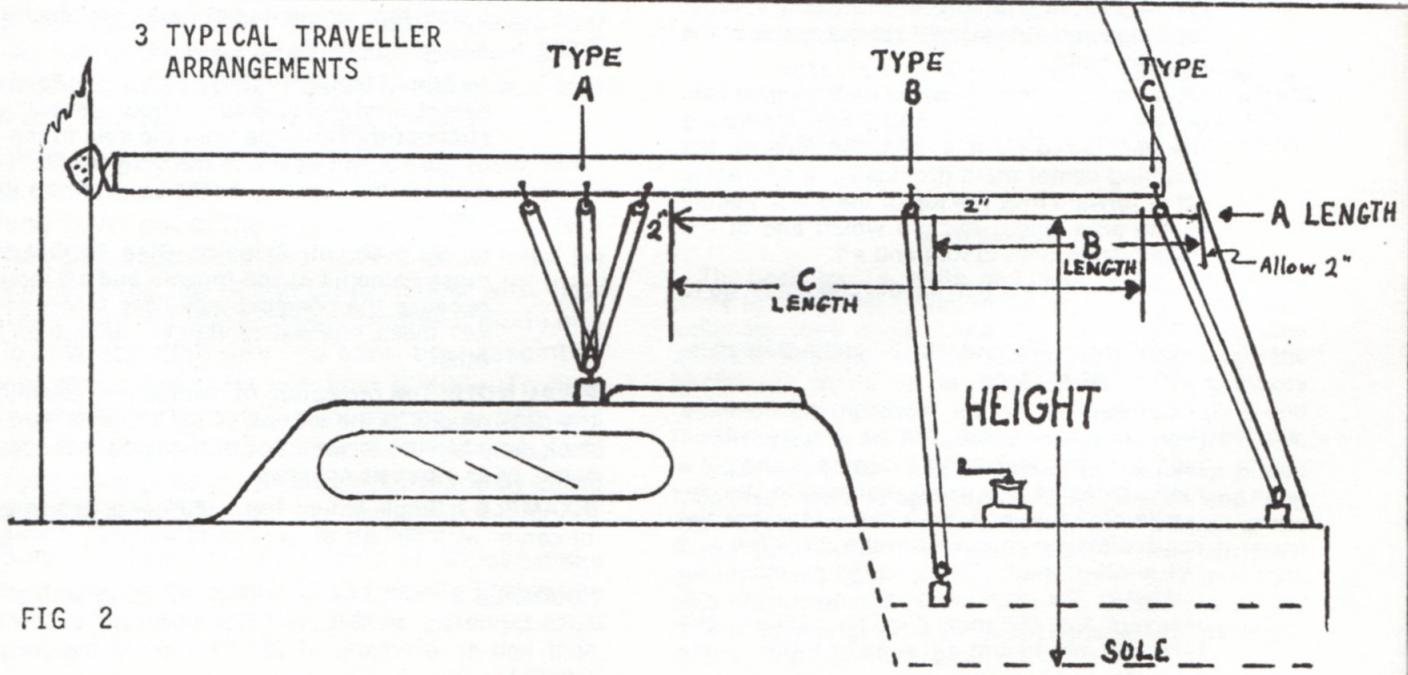

FIG. 2
STEP 3: Measure from the backstay to the mainsheet at the final height in Step 2. Subtract 4". If the mainsheet attaches to the end of the boom the top may have to either be forward or aft of the mainsheet. (Refer to Figure 2 for your particular type of traveler or mainsheet arrangement.)
Look at Figure 2 at this time to get an idea of how the table will be assembled. Now let us get to work!
► FIGURE 2